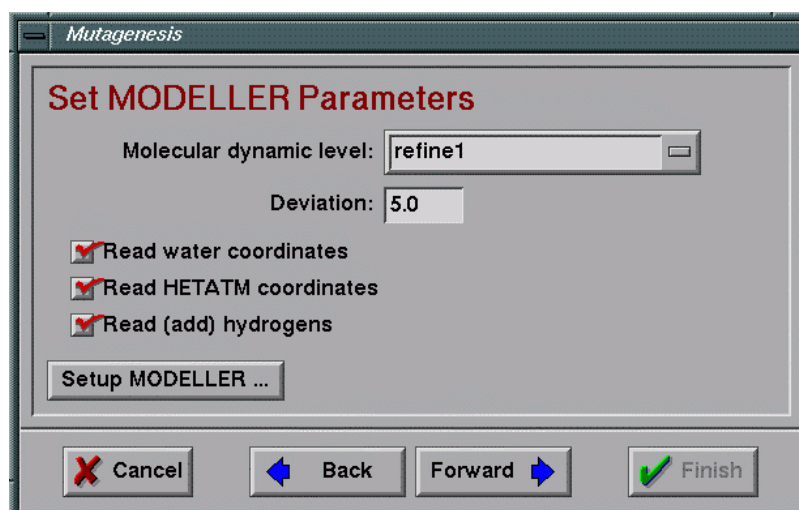

Fig 12.11 Window for specification of MODELLER parameters
- 8) Specify the parameters for MODELLER calculation (**Fig 12.11**). You can specify the level of the molecular dynamics refinement, allowed deviation (in Å) of the mutant structure from the template structure and the request for transfer of water molecules, heteroatoms and hydrogens from template to model. By choosing *Read (add) hydrogens* option while template has no hydrogens, MODELLER will automatically add them. For more details look into a theory section of the MODELLER manual. You have also a last chance to open *MODELLER Setup* window and configure the program (see page 10).